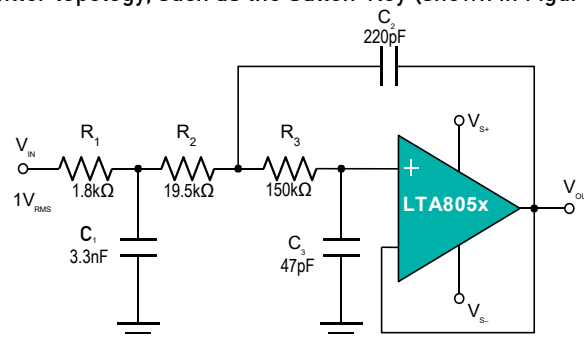

Figure 4. Configured as a Three-Pole, 20-kHz, Sallen- Key Filter
3. using a non-inverting filter topology, such as the Sallen-Key (shown in Figure 4).